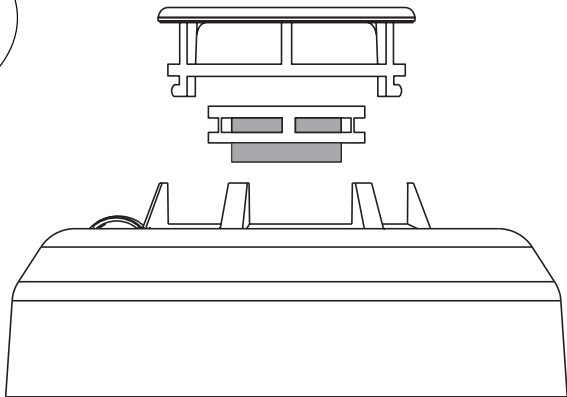

Figure 8: Detector Cover and Sensing Chamber
5. Press in the sides of the sensing chamber where indicated by the alignment arrows. Pull the sensing chamber straight up out of the detector. See Figure 8.